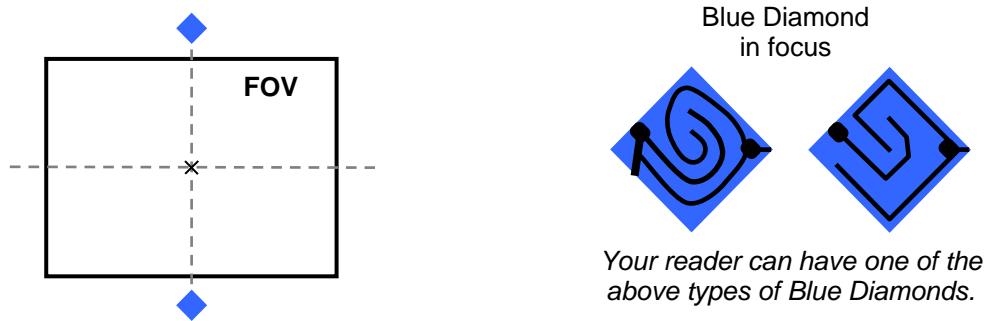

Figure 9 – Focus Function Using Blue Diamonds
- a. At the correct reading distance (see the Reading Diagrams in Chapter 6 of this Reference Manual), adjust the Focus ring towards the "Near position" until the Blue Diamonds are perfectly in focus, see Figure 9.